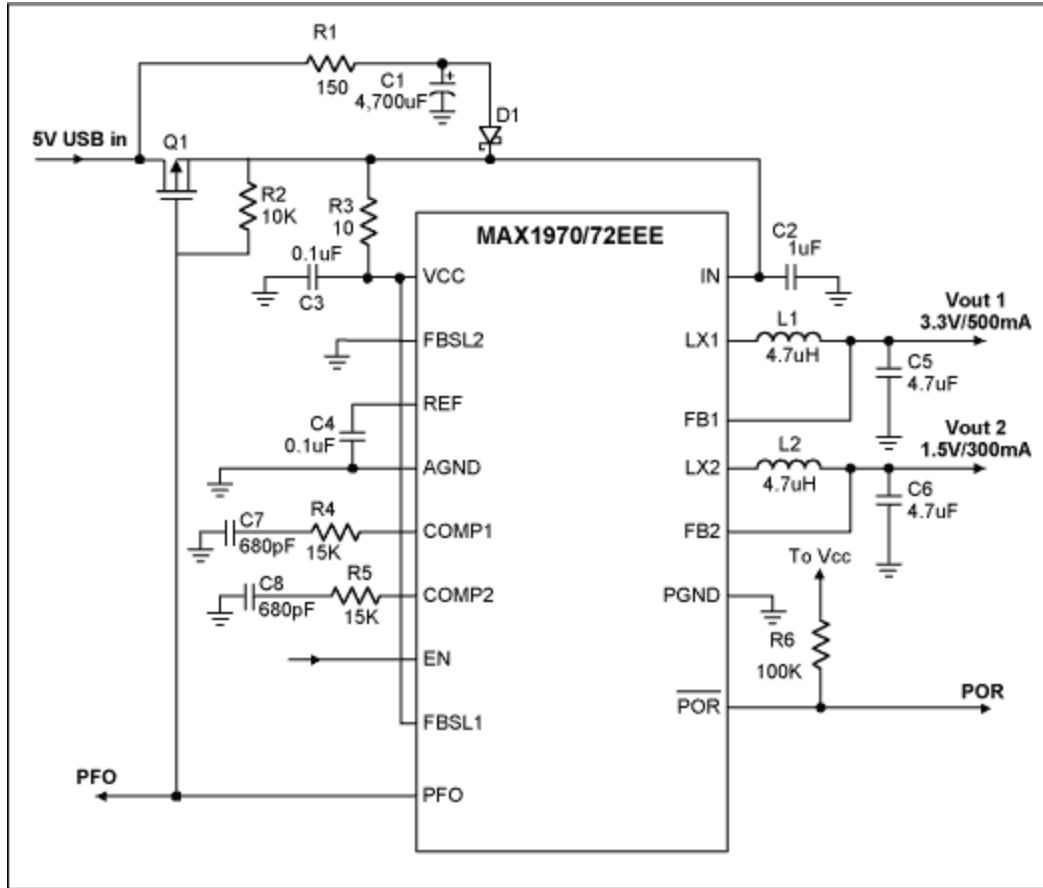
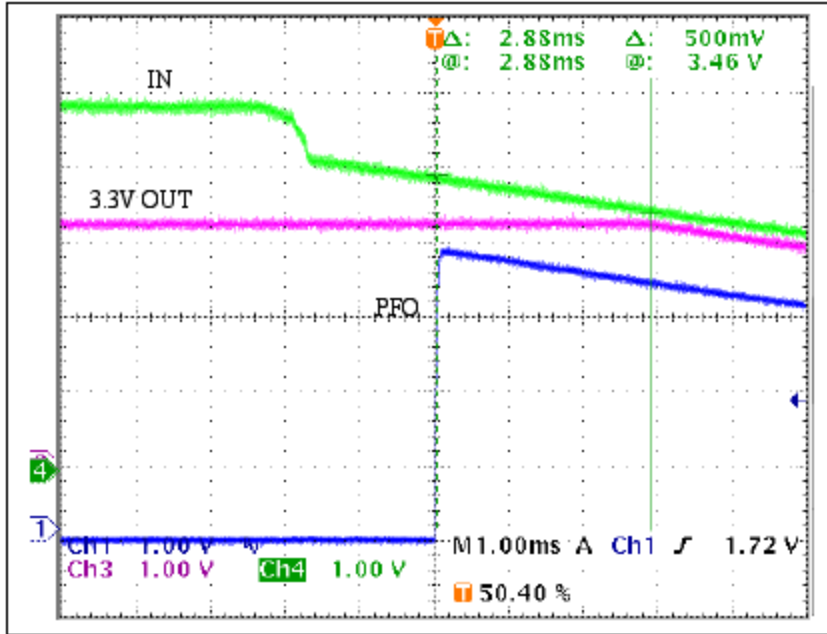

Figure 1. Typical application circuit for 5V USB dying gasp application.
Figure 2. Input power fail (PFO) warning time.
For dying gasp applications, there must be a local energy storage capacitor that will power the device and prolong its operation for orderly shut down when USB power is lost. The loss of USB power is sensed and a warning signal is issued. To meet the dying gasp warning time, the energy storage capacitor value needed is much larger than the 10uF allowed. The circuit in **Figure 1** is designed to solve this problem.
Under normal operation, input current to the MAX1970 flows through Q1, and C1 is charged to ~5V USB in. When the 5V USB power fails or turns off, the energy stored in C1 provides power via D2. As C1 discharges to the MAX1970 input power fail (PFO) threshold of 3.94V, PFO goes high to turn off Q1, and issues an input power warning while both outputs are still in regulation. C1 continues to discharge and the higher output voltage (3.3V) drops out. The power fail warning time is measured from the time PFO goes high to the time when the 3.3V output drops out of regulation. **Figure 2** shows the typical PFO warning time of 2.88mS for the circuit in Figure 1, when 3.3V and 1.5V are loaded at 500mA and 300mA respectively.
The top trace in Figure 2 is the voltage at the MAX1970 IN pin. As the 5V USB input is turned off and the storage capacitor C1 starts to supply the energy to the DC/DC converter, the voltage at the IN pin drops, due to forward voltage of D1. As C1 continues to discharge to the PFO threshold, PFO goes high and turns off Q1. C1 further discharges until the 3.3V output starts to droop, when IN is about 3.5V.
For the circuit in Figure 1, when 3.3V and 1.5V are loaded at 500mA and 300mA respectively, the input power calculated by equation (1) is 2.33Watts at n = 90%. The average current supplied from C1 as calculated by equation (2) is 628mA. Finally, the warning time calculated by equation (3) is 3.28mS,
which agrees with the oscilloscope plot of Figure 2 to within the 20% tolerance of C1.